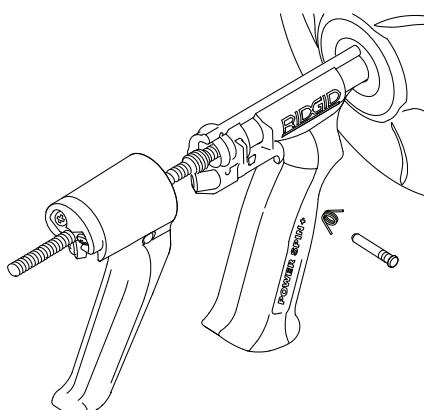

Figure 10 – Trigger Assembly
1. Press non-headed end of pivot pin through the trigger and remove trigger from handle (*Figure 10*). Do not lose the spring.
10. Install spring and trigger, securing with the pivot pin (*Figure 10*).